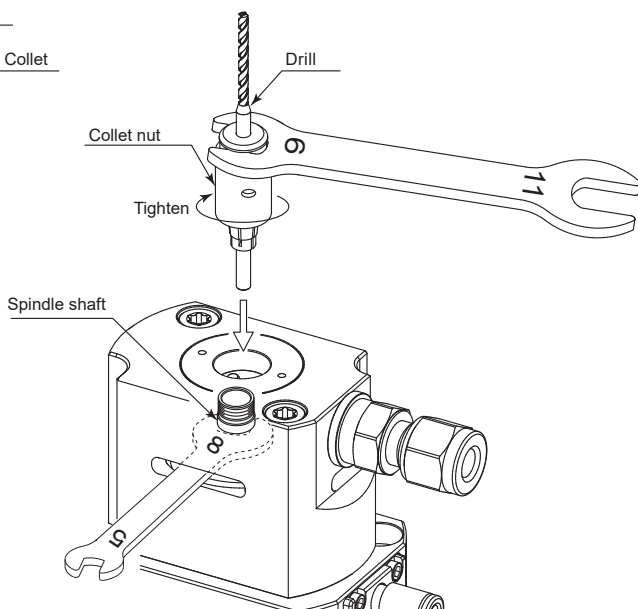

Fig. 6
- ② Insert the drill into the collet, and attach the drill and the collet nut to the spindle shaft. (Fig. 6)
- ③ Place the provided 8 mm wrench on the wrench flats of the spindle shaft.